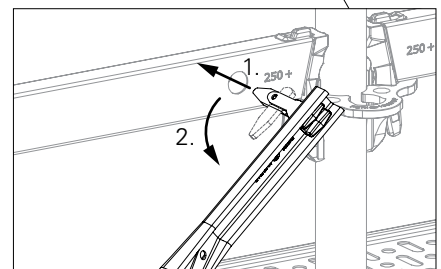

Fig. B1.06d
7. Insert the gravity pin into the holes of the top Ledger UH (3), turn pin to secure. (Fig. B1.06d + B1.06e)